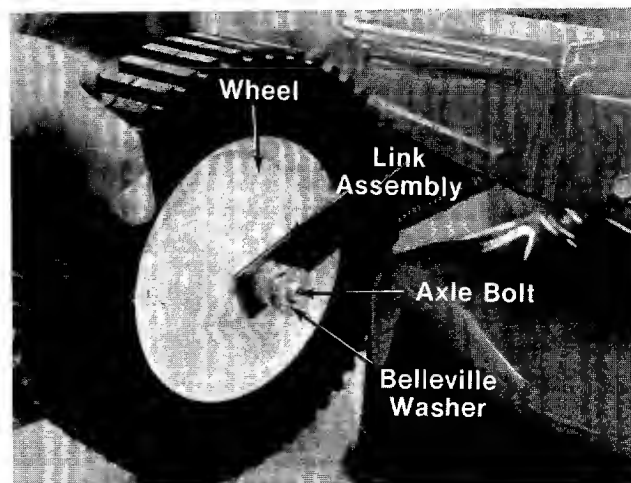

FIGURE 10.
4. With an adjustable wrench, remove the axle bolt, front wheel and belleville washer. See figure 10.